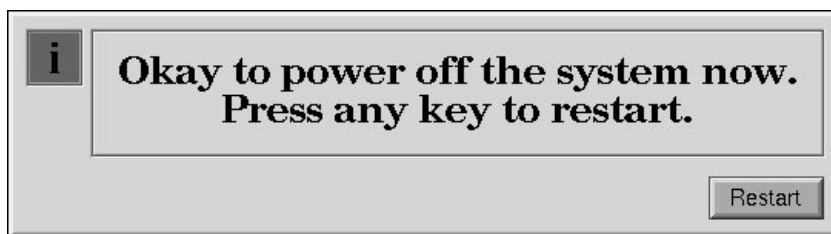

Figure 8-3 Okay to Power Off Notifier
3. After a few seconds, the screen clears. When you see the notifier shown in Figure 8-3, click the *Restart* button.